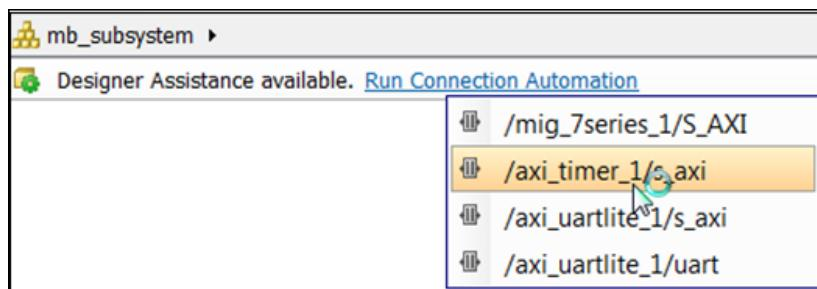

Figure 108: axi_timer_1/s_axi
2. Click **Run Connection Automation** and select **/axi_timer_1/s_axi** (Figure 108).